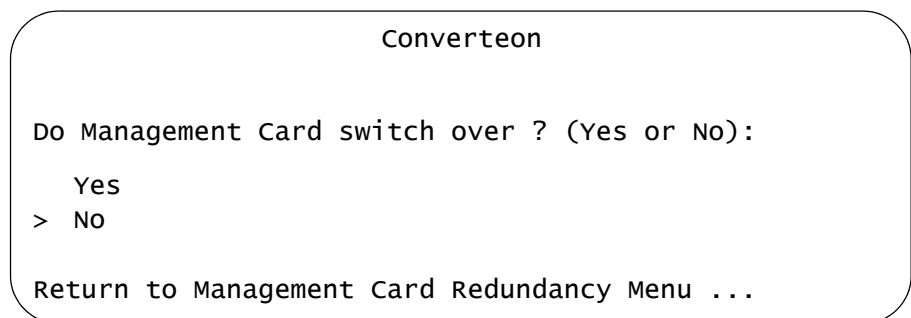

Figure 41. Confirmation Prompt for Switch Over Management Cards
1. From the Main Menu, select **Management Card Redundancy** to display the Management Card Redundancy Menu, shown in Figure 41.